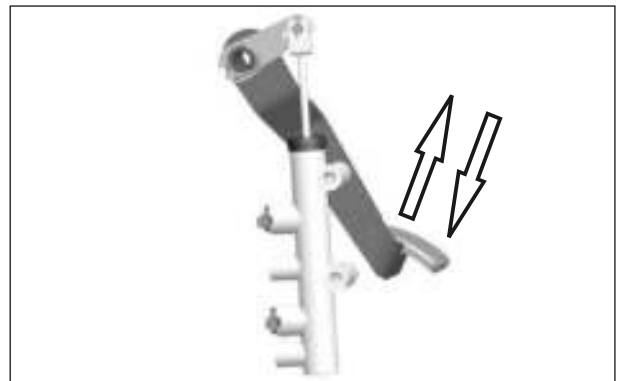

Fig. 2.77
- Depress the foot pedal slowly throughout the full stroke of the pedal and allow it to return slowly to its stop. (Fig. 2.77)